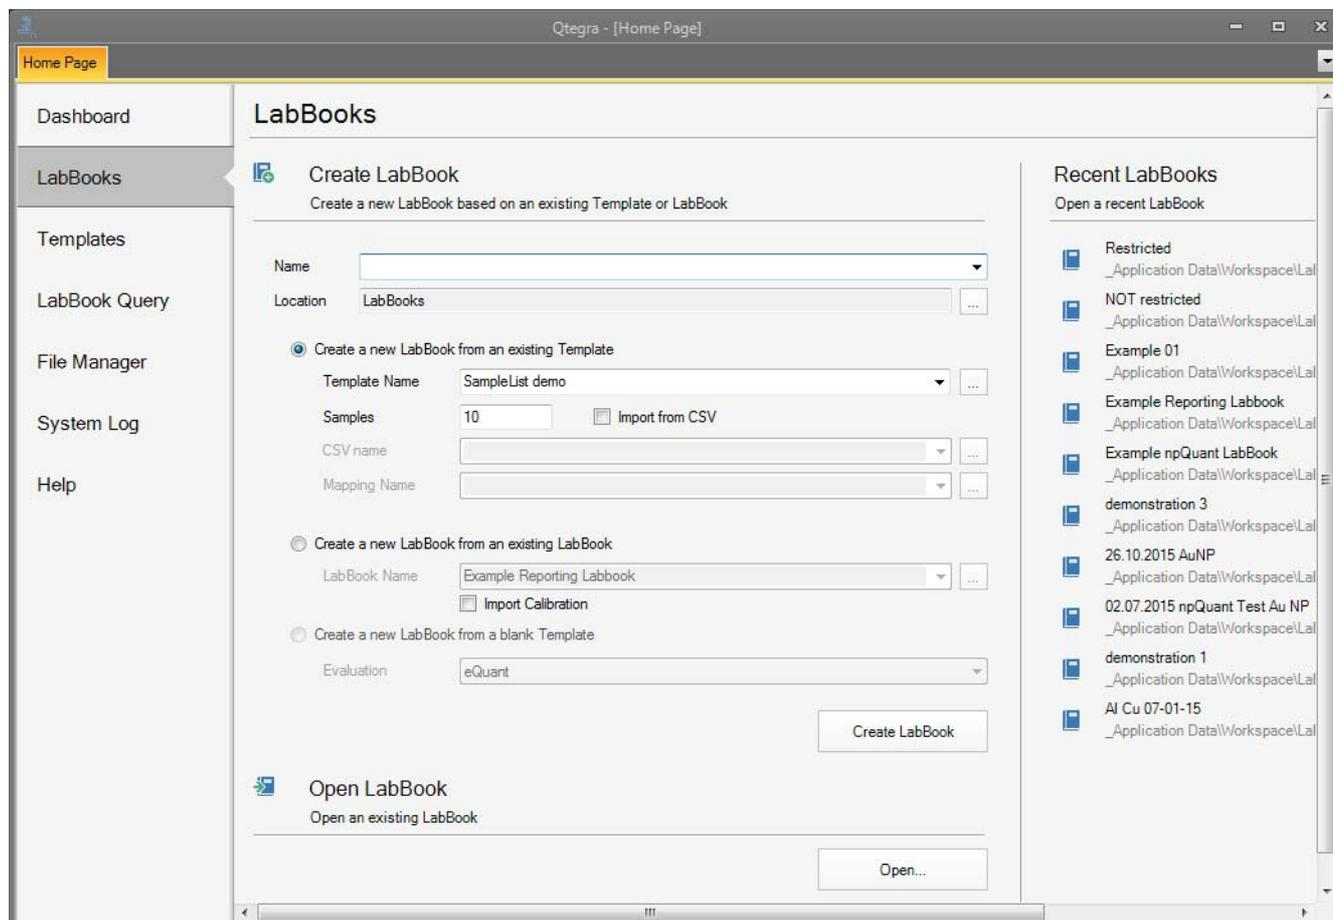

Figure 4-32. Typing the Name for a new LabBook
3. Select a **Location** (see Figure 4-32) for your desired folder. Qtegra starts with “LabBooks” as default location. We recommend